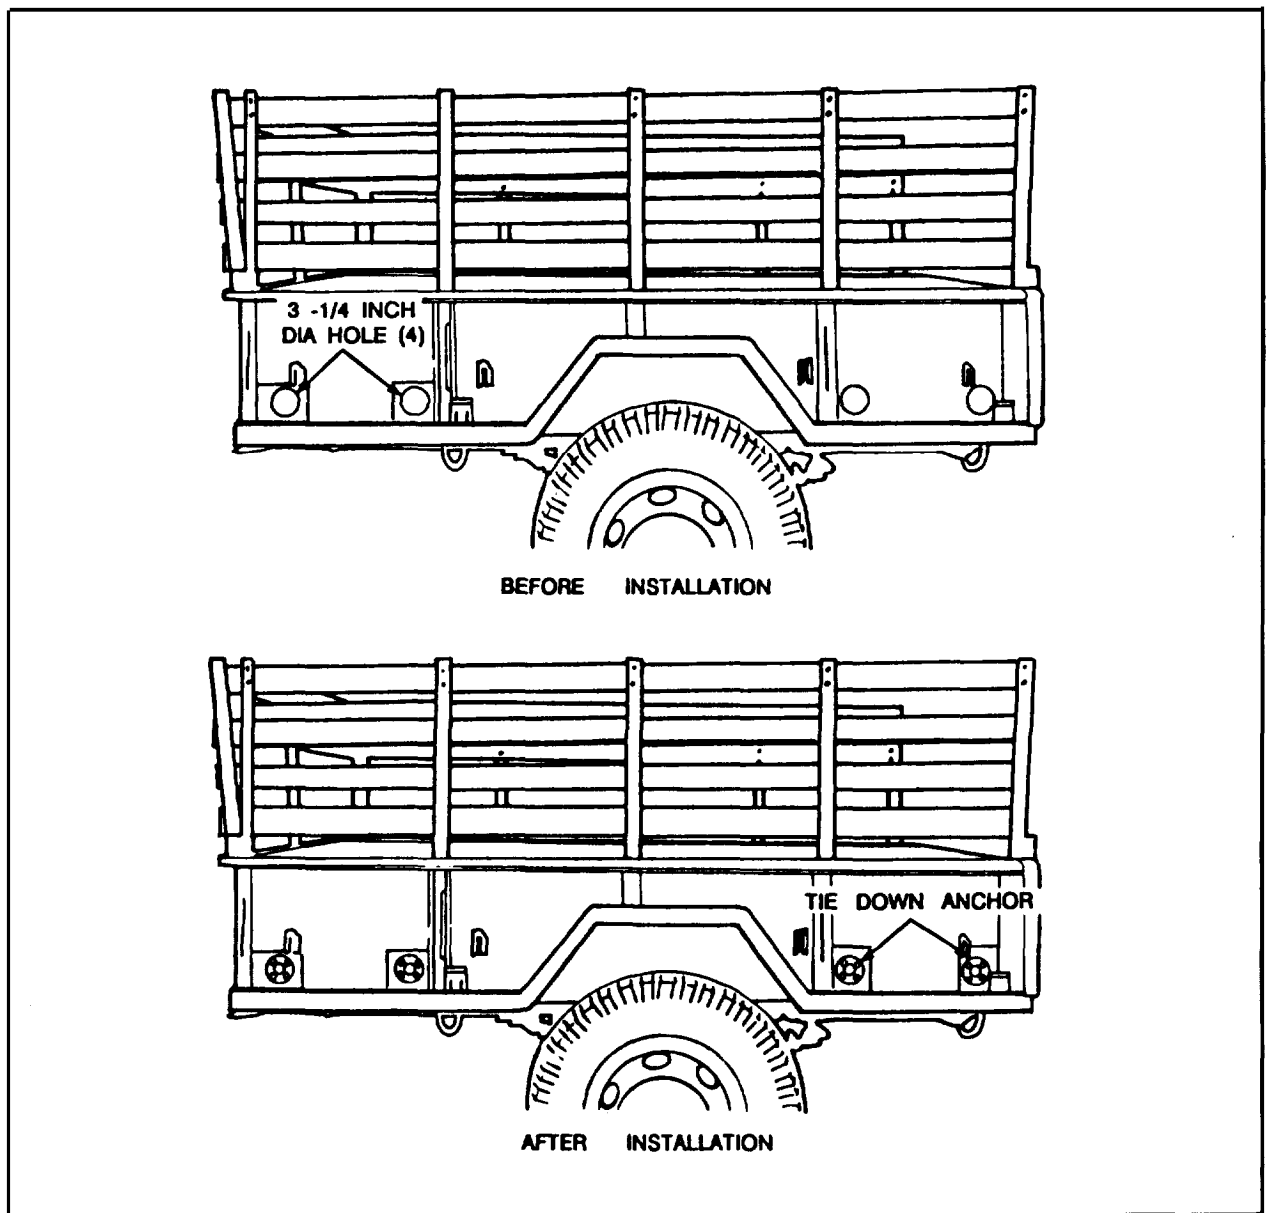
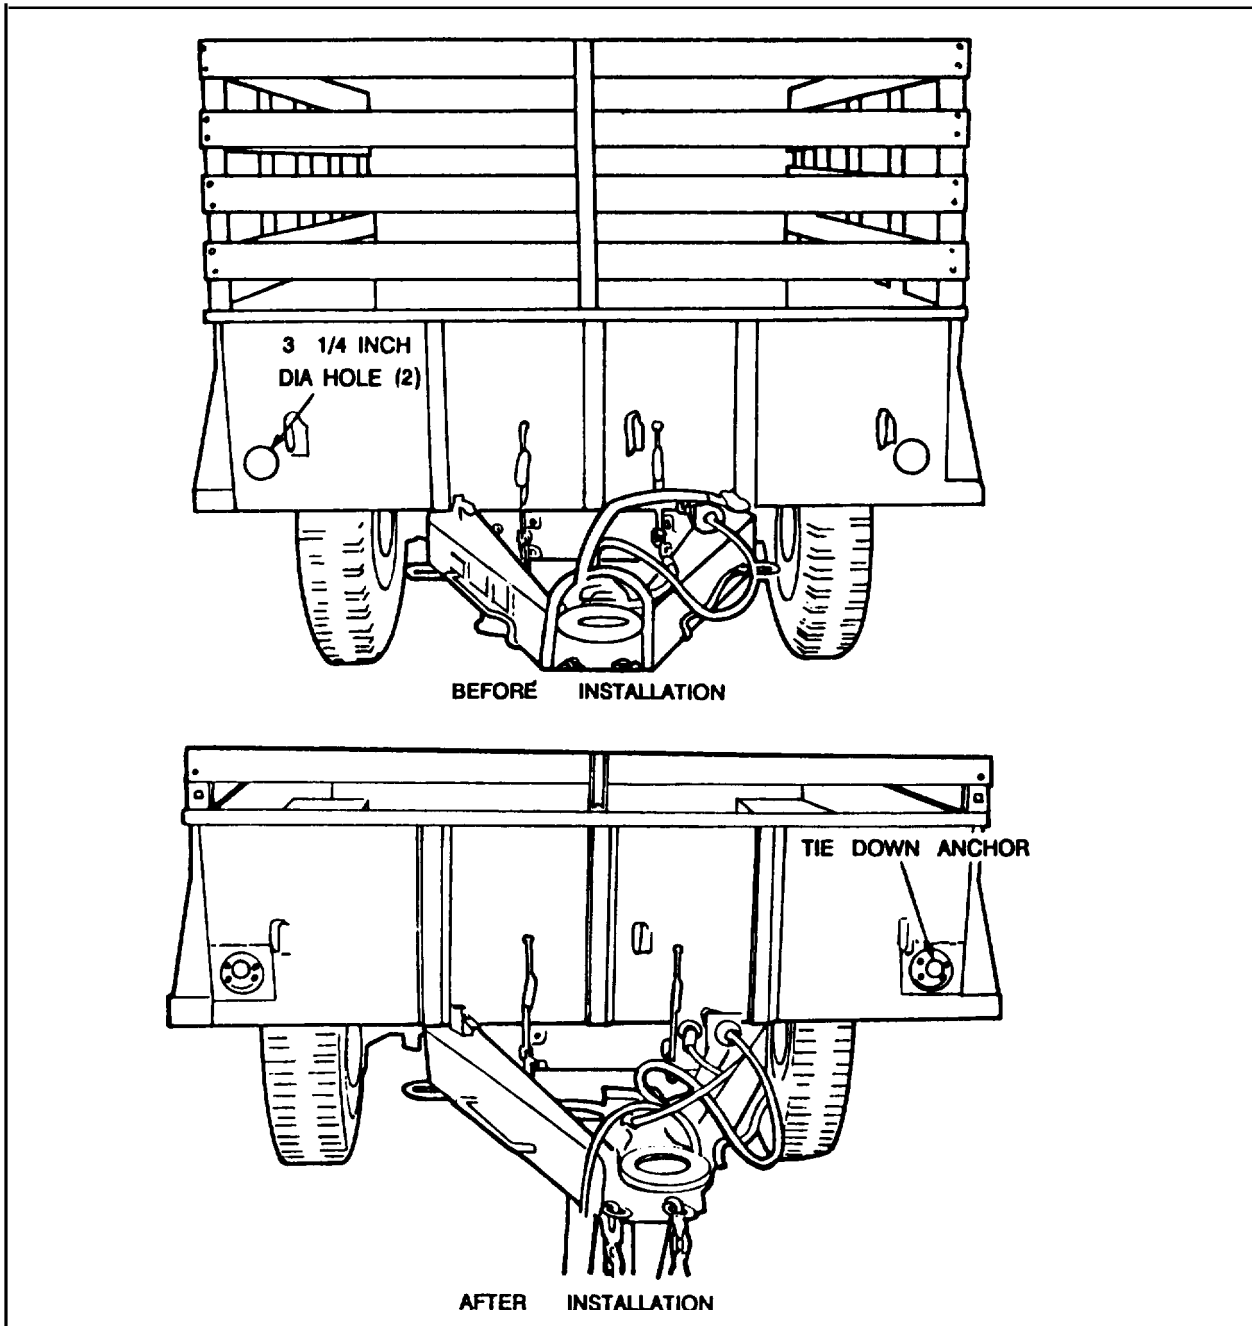
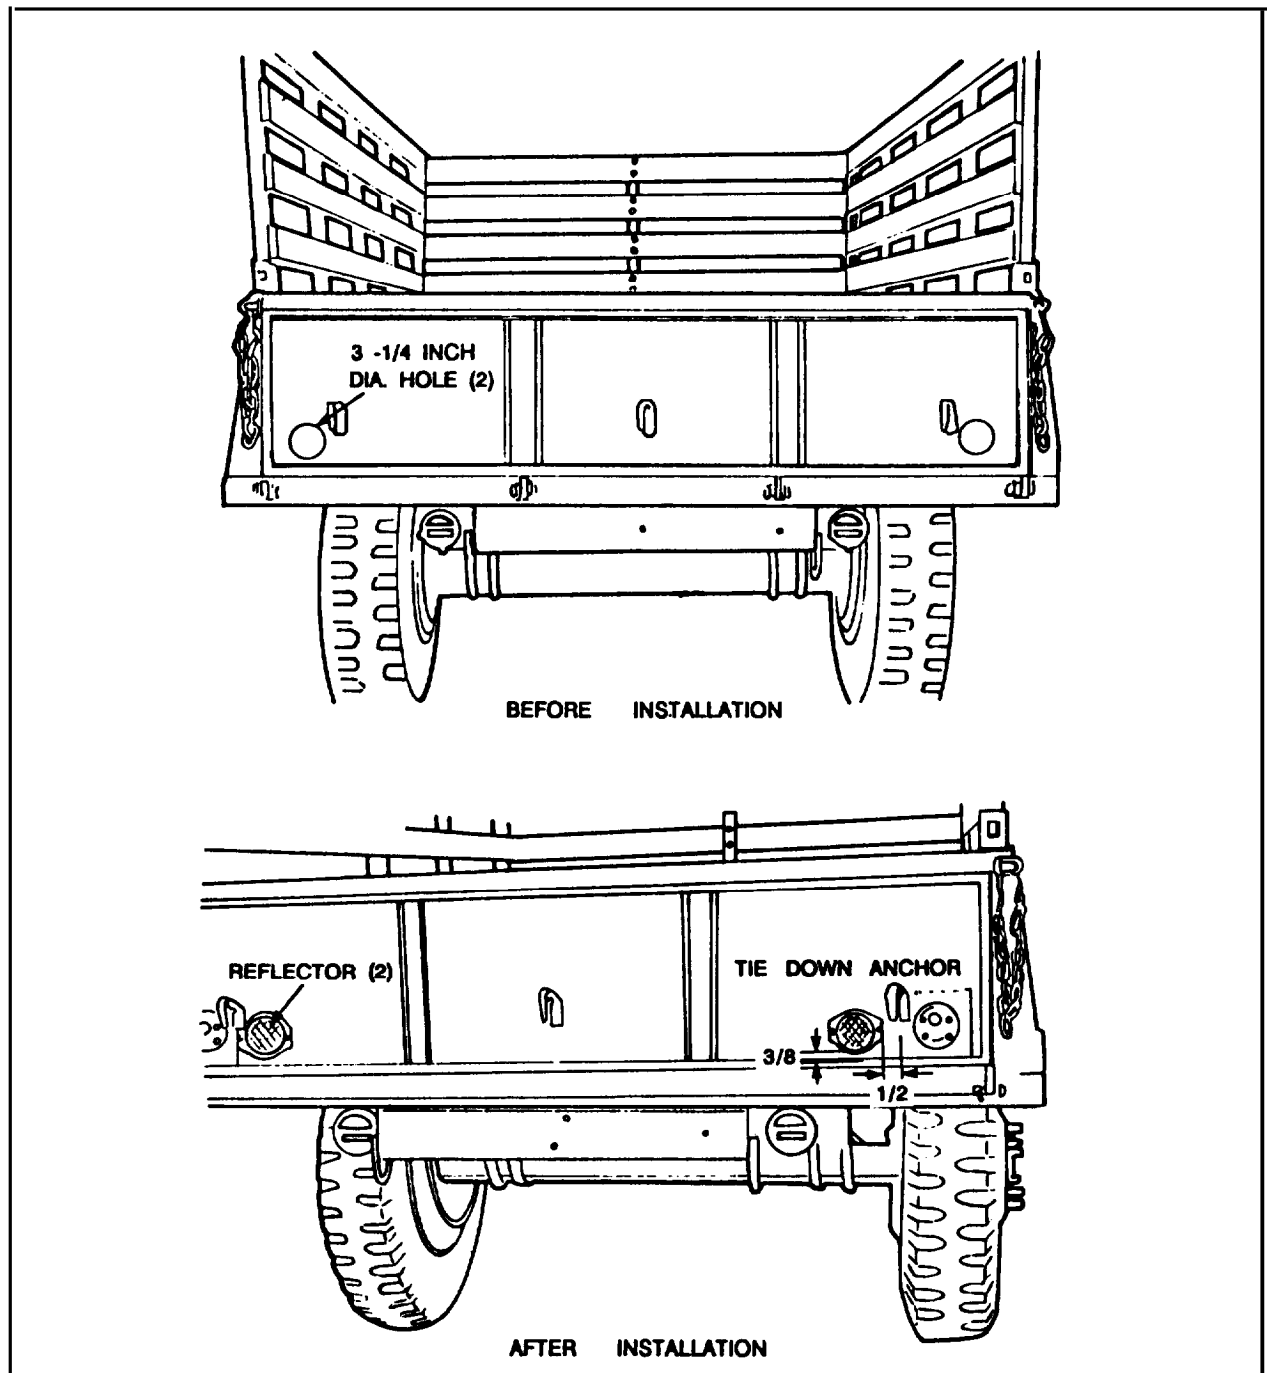

Figure 15. Installation of tiedown anchors on trailer side panel
Figure 16. Installation of tiedown anchors on trailer front panel
Figure 17. Installation of tiedown anchors and reflectors on trailer tailgate
(1) Remove two rear (red) and four side (amber) reflectors from cargo body. Retain red reflectors, attaching nuts and screws. Discard amber reflectors.
(2) Using template provided in kit, scribe location of four anchors on left side, four on right side (figure 15), two on front panel (figure 16), and two on tailgate (figure 17).